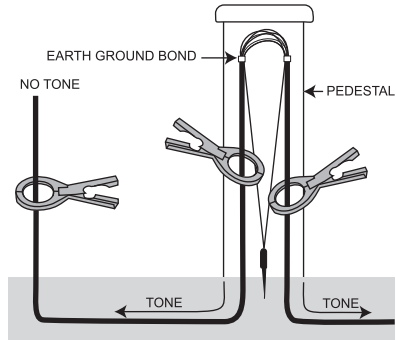

Fig. 10. Coupling Points
1. **Coupling Points:** The bond is one aspect which enables the inductive coupling method to work. For proper placement of the clamp at a pedestal, place it between the bonding point and the point where the cable goes into the ground. In CATV applications, these positioning points would be at the end of the main line or at the subscriber's house. Applying the coupler above the bond will effectively "block" the tone from transmitting past the grounding point. (See Fig. 10) By strategically placing the clamp in the direction of the transmitter, tone may be controlled.
3. **Near End Coupling:** To supply tone from the end of a cable, the end of the cable must be bonded or grounded. (See Fig. 10)